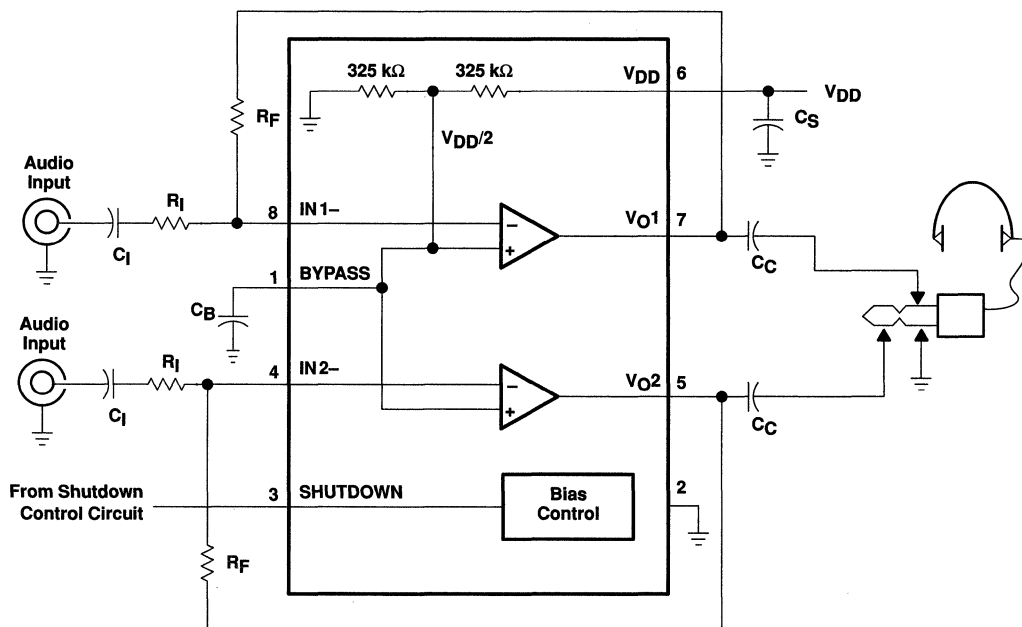

Figure 1. TPA102 Audio Power Amplifier in SE Configuration
The configuration of the amplifier dramatically affects how much power can be delivered to the speaker. Single ended (SE) configuration is most common in headphone or applications when the speakers use a common ground. It is referred to as single ended because only one terminal of the speaker is connected to the amplifier. The other terminal is tied to ground, see Figure 1. This technique requires only three conductors between the amplifier and speaker for a stereo solution, left positive, right positive and the third for ground. In terms of power provided to the load, the equation is straight forward, just remember to convert the supply voltage to an RMS value by dividing the peak to peak voltage by  $2 \times (2)^{1/2}$  or 2.83. Once  $V_{RMS}$  is determined plug the value into Equation 1 to find the power delivered to the speaker: